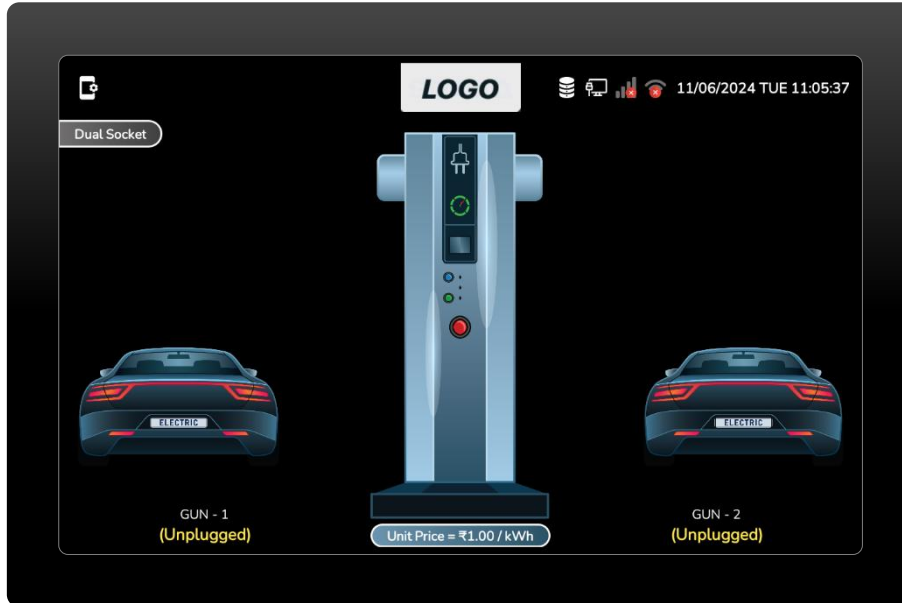

Figure 53 Dashboard Screen.
- This is a dashboard screen that allows the user to charge the vehicle with either GUN-1 or GUN-2. Follow the next section for a better understanding. (Figure 53)